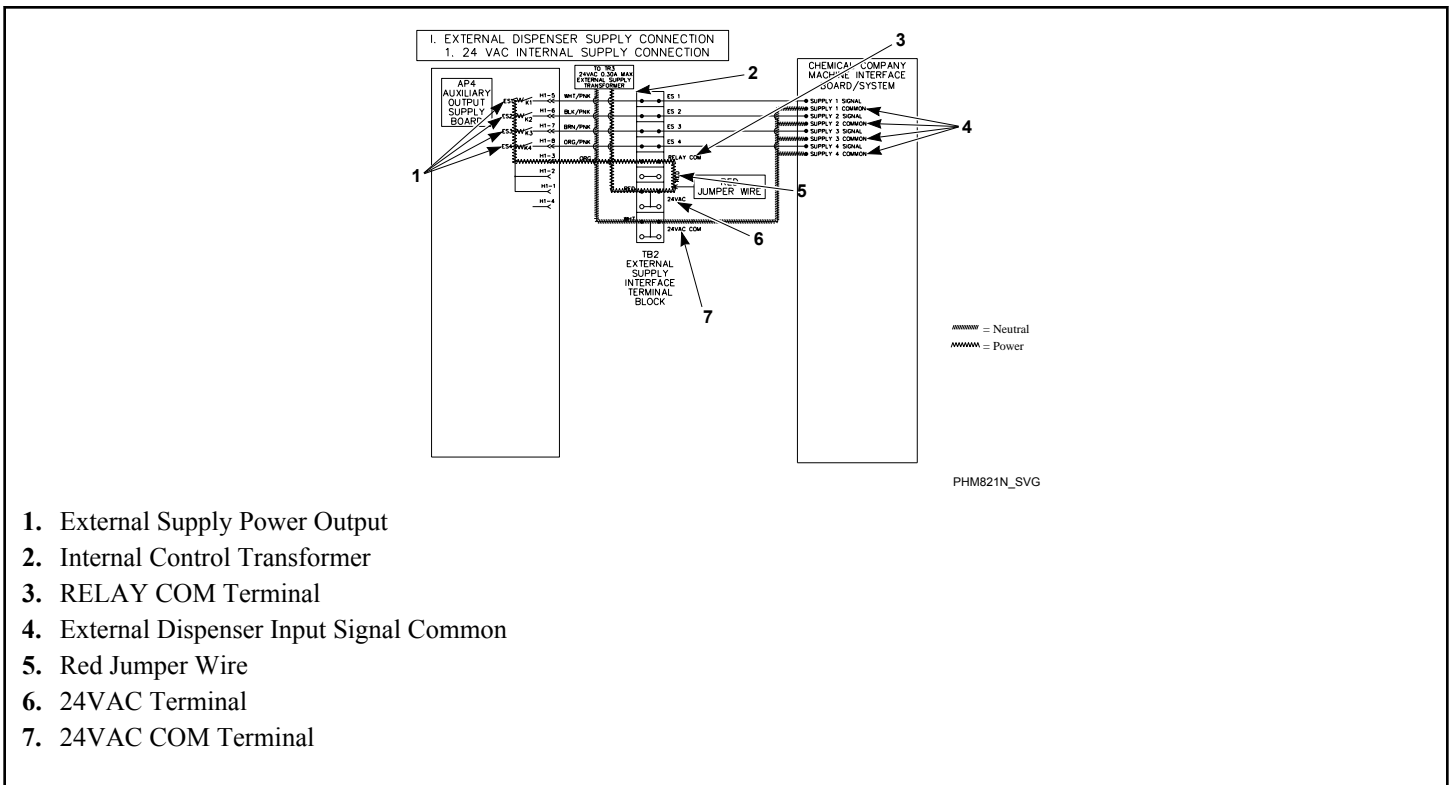

Figure 33
- The second terminal is used to connect the other side of the control transformer to the machine output signals common through a red jumper wire between “24VAC” and “RELAY COM”. Refer to *Figure 33*.